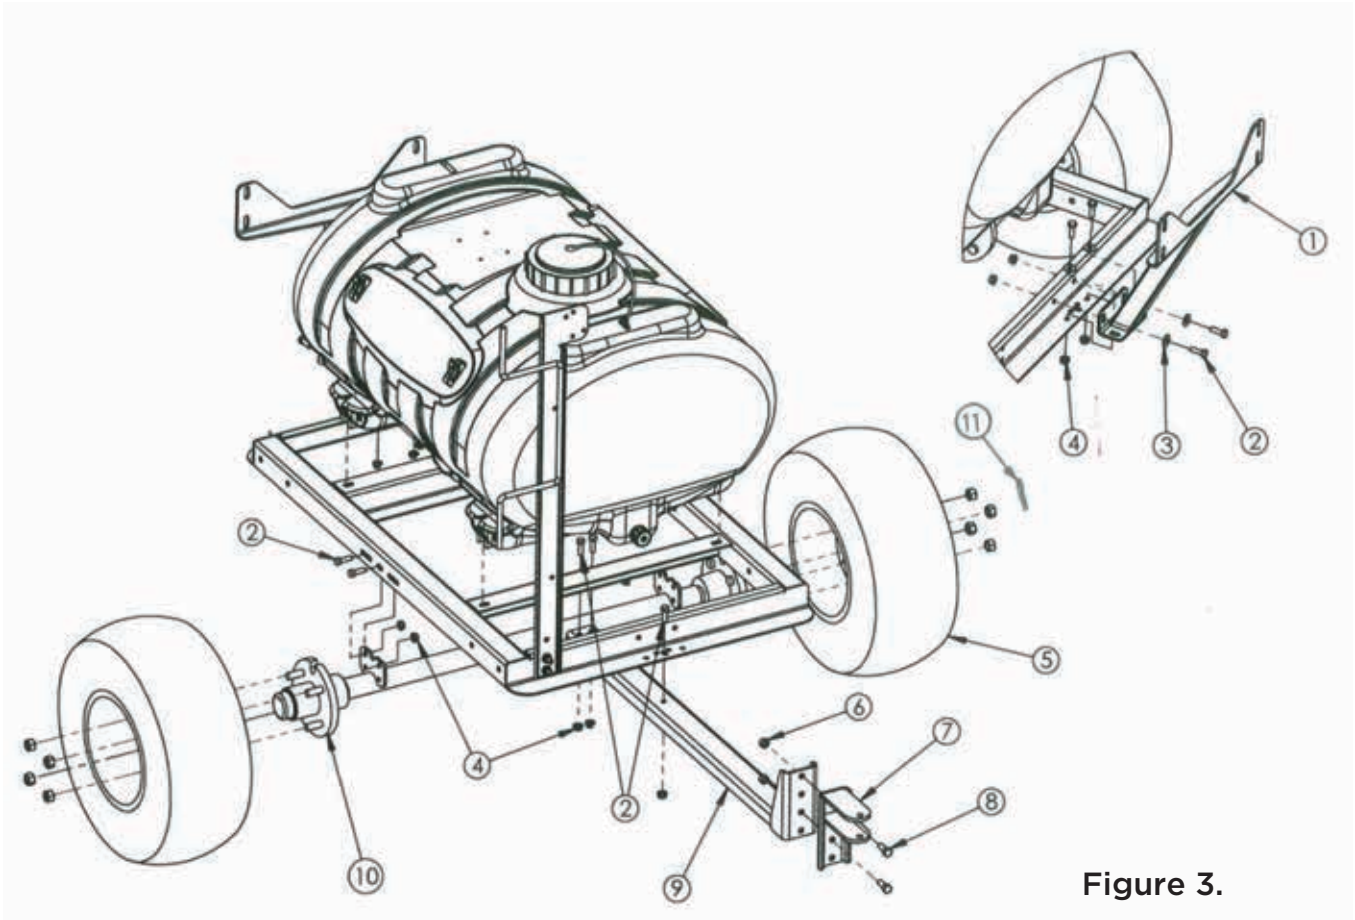

Figure 3.
- 4.) The Adjustable Tongue (PM 32-100067) can be attached to either end of the skid frame. Attach tongue using three 5/16-18 x 1" cap screws (PN 33-100116) and three 5/16-18" serrated nuts (PN 33-100113). Tighten securely, see Figure 3.
- 5.) Attach Adjustable Hitch (PN 32-100066) to Tongue (PN 32-100067) with two 3/8-16x1" bolts and two 3/8-16" nuts (PN 33-100066) to Tongue (PN 32-100067) with two 3/8-16x1" bolts and two 3/8-16" nuts (PN 33-100125). The Adjustable Hitch can be raised and lowered to adjust tongue to desired height, See Figure 3.
- 6.) Raise back end of sprayer and place on blocks to allow easier access to axle location. Ensure sprayer is firmly supported. Locate axle (PN 32-100062) underneath skid frame aligning holes in axle with holes in frame. The axle must be located with the holes in skid frame **farthest** from the tongue attached in step 2. Fasten axle to skid frame with four 5/16-18 x 1" cap screws (PN 33-100116), four 5/16" washers (PN 33-100115) and four 5/16-18" serrated nuts (PN 33-100113). Tighten securely, see figure 3.
- 7.) Slide two wheels (PN TWA-15x600-6) over axle shaft and secure with cotter pin (PN 33-100127) by bending, see figure 3.
- 8.) Attach Boom Mount (PN 32-100063) to back end of skid frame using four 5/16-18 x 1" cap screws (PN 33-100116) and four 5/16-18" nuts (PN 33-100113), see figure 3.